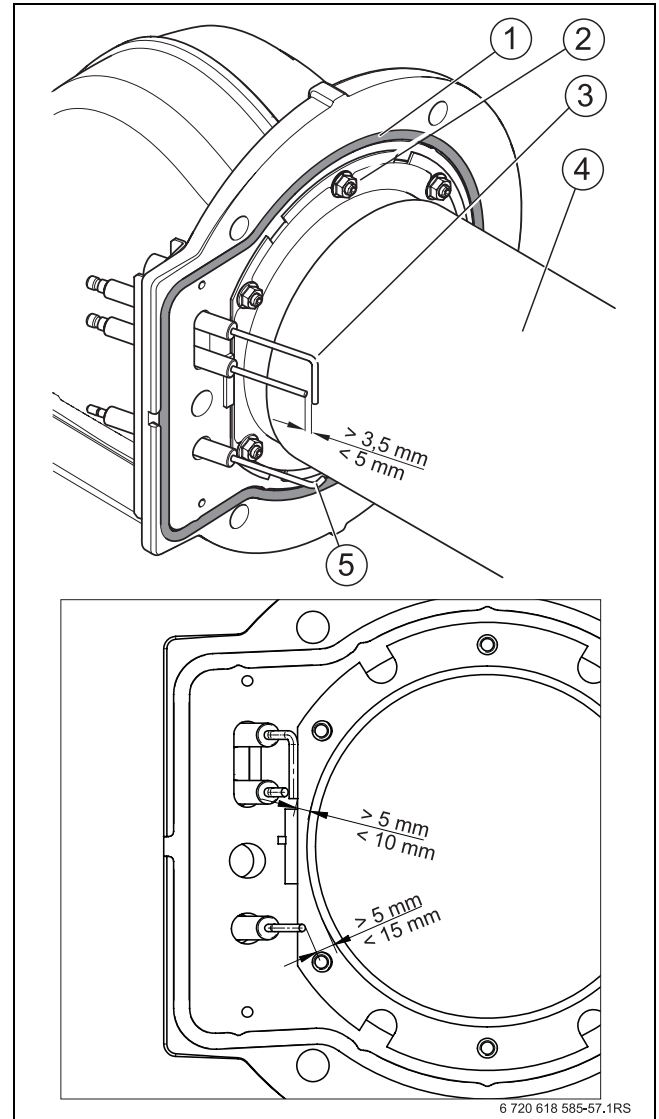

Fig. 55 Setting the electrode position
- ▶ Check the gaps between the electrodes and compare them with those shown in Fig. 55.